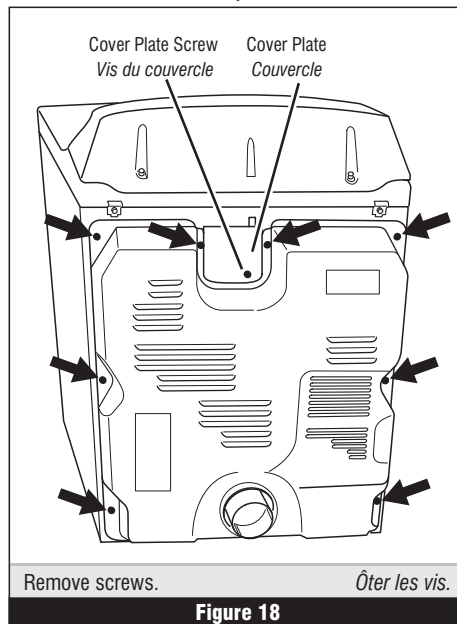

Figure 18
2. Remove the cover plate screw and cover plate. See figure 18.
2. Ôter la vis du couvercle et le couvercle. Voir figure 18.